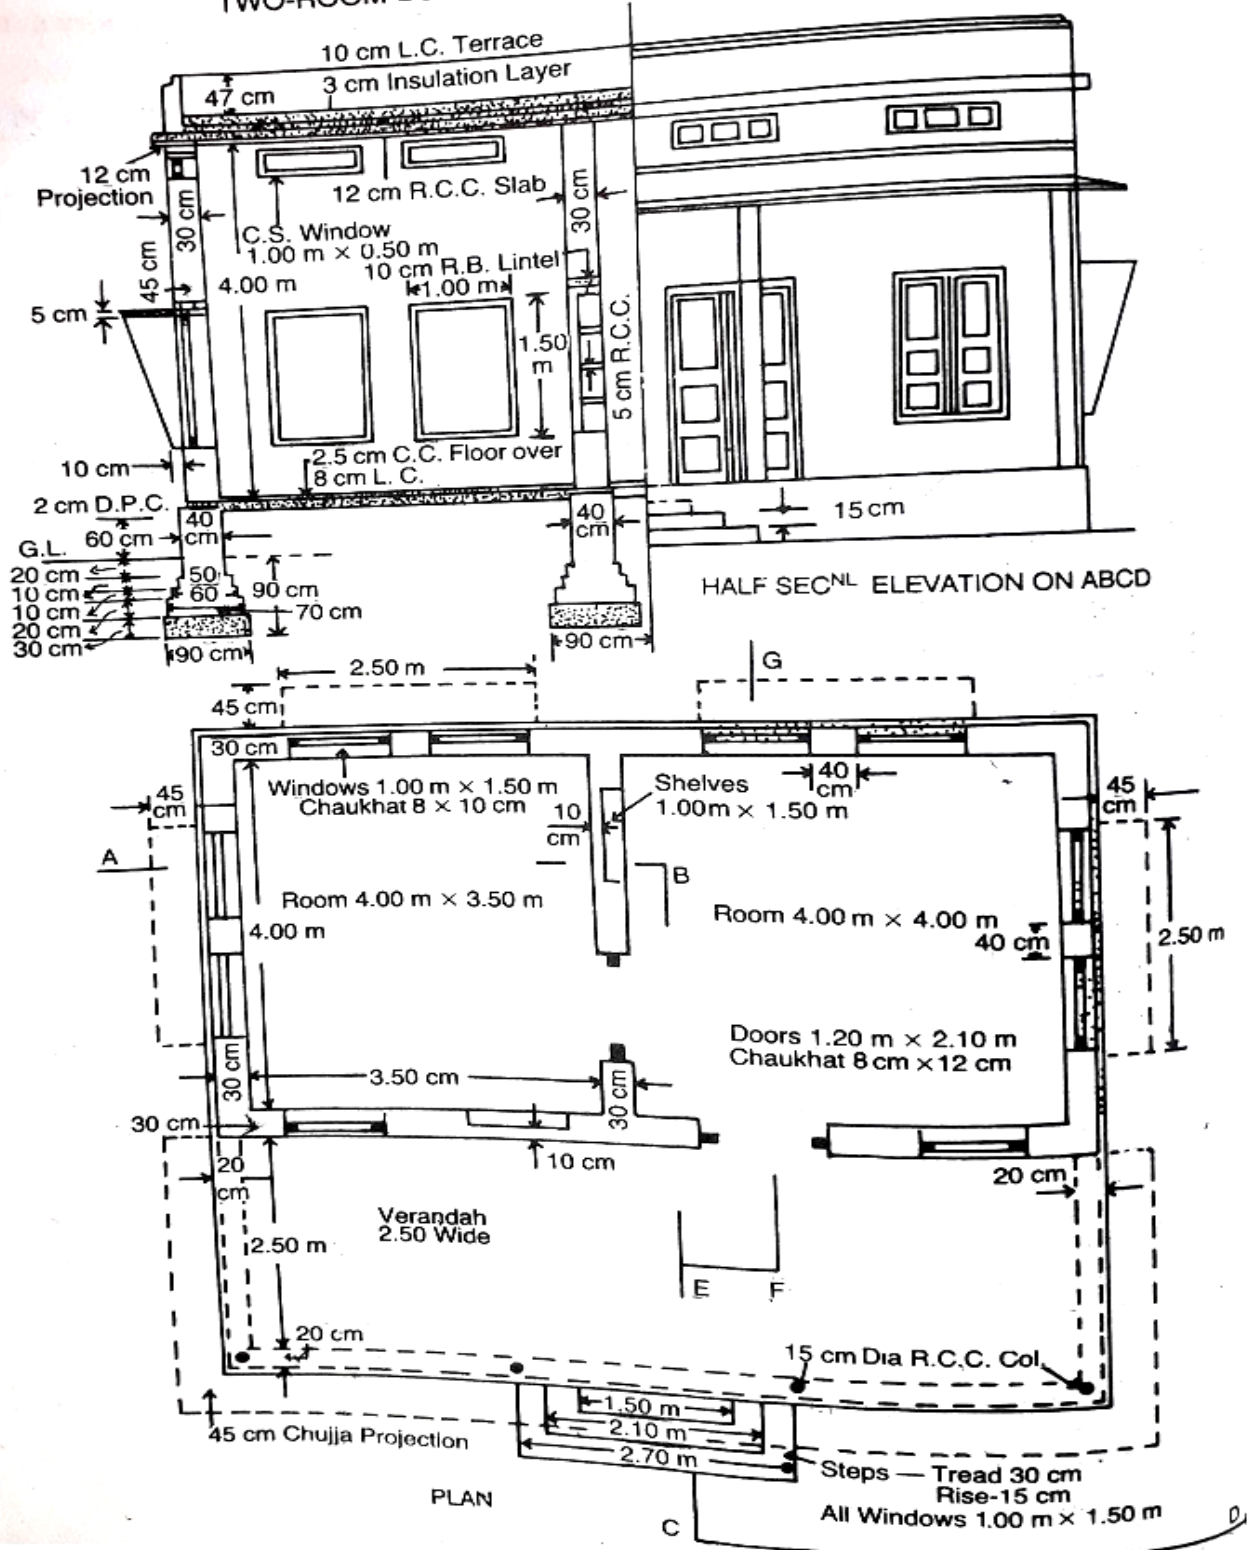

Fig. 2.
6. Estimate the quantities of following item of works from the Two-roomed Building shown in Fig. 2. a) Earthwork in Excavation in foundation b) Lime concrete in foundation c) 1st class brickwork in Foundation and Plinth in 1 : 6 cement mortar. 14M